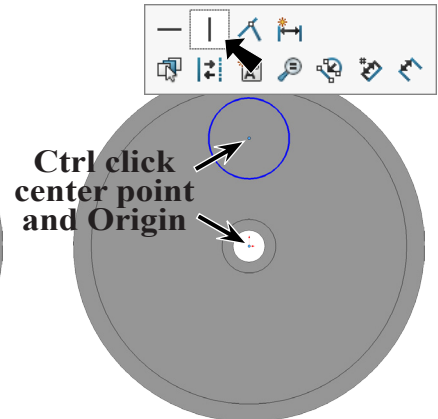

Fig. 15
Step 5. **Ctrl click centerpoint of circle and Origin**  to select both. Release Ctrl key and click **Make Vertical**  on the context toolbar, **Fig. 15**.